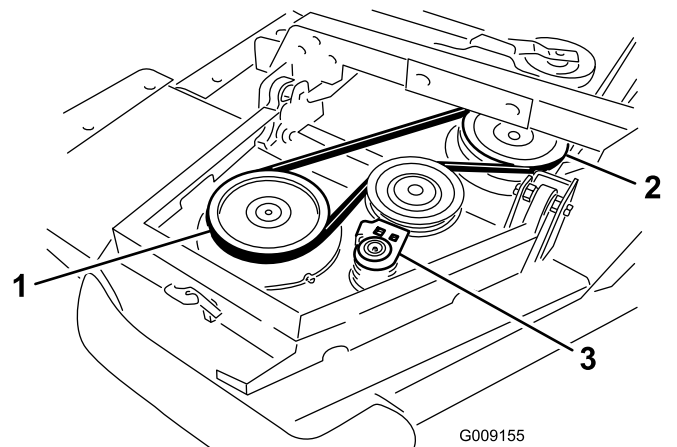

Figure 5
- Start the belt around the winglet-spindle pulley and the front-deck-spindle pulley (Figure 5).
- B. Using a ratchet wrench or a similar tool, move the idler pulley away from the pulleys (Figure 5).